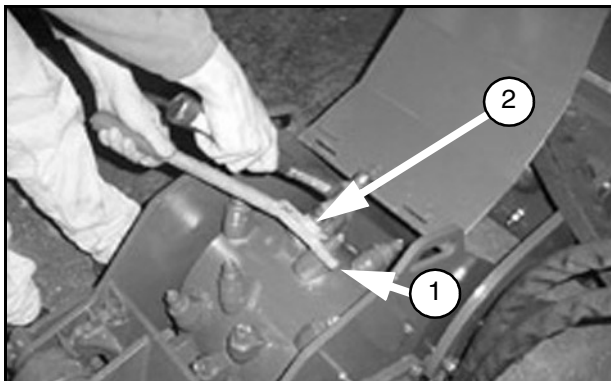

Figure 39.
1. Insert the pick tool (1) into the slot on the pick (2) as shown in Figure 39.